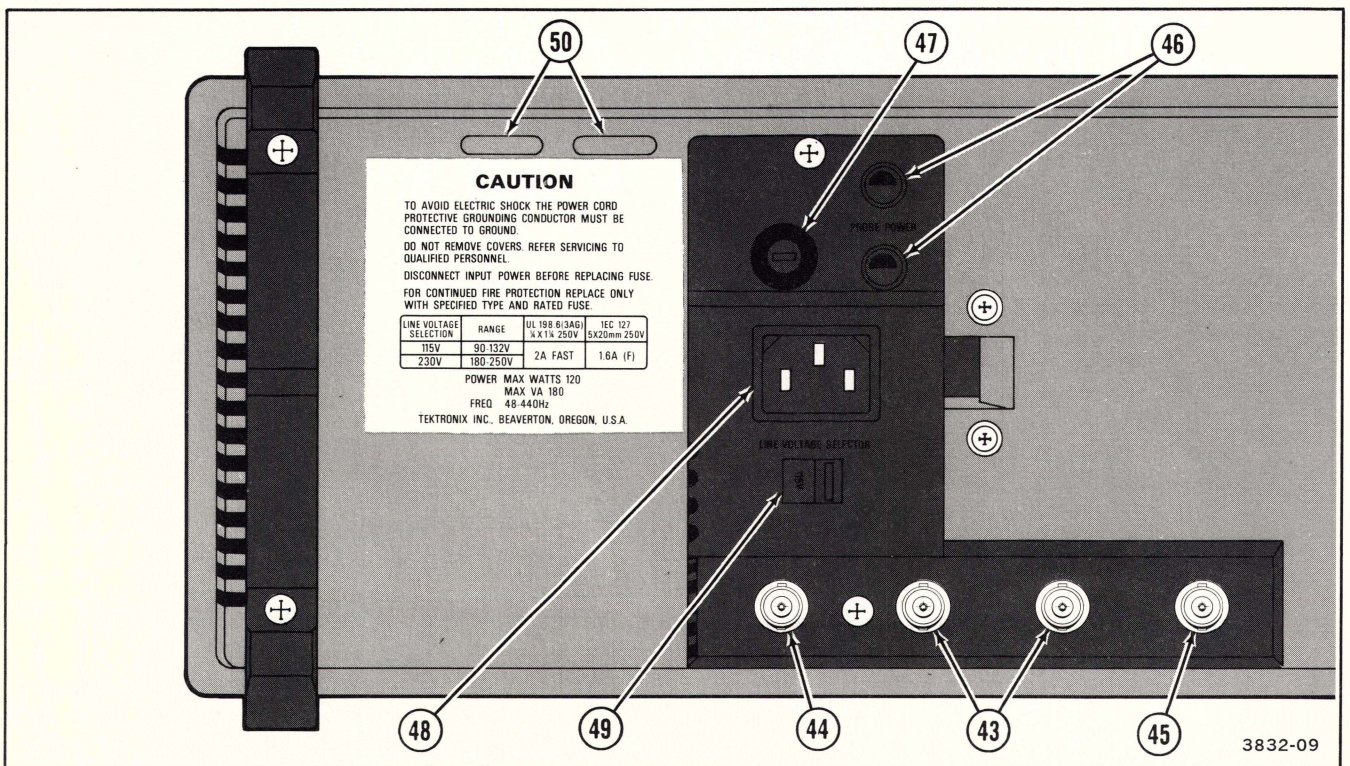

Figure 3-6. Rear-panel controls and connectors.
Refer to Figure 3-6 for location of items 43 through 50.